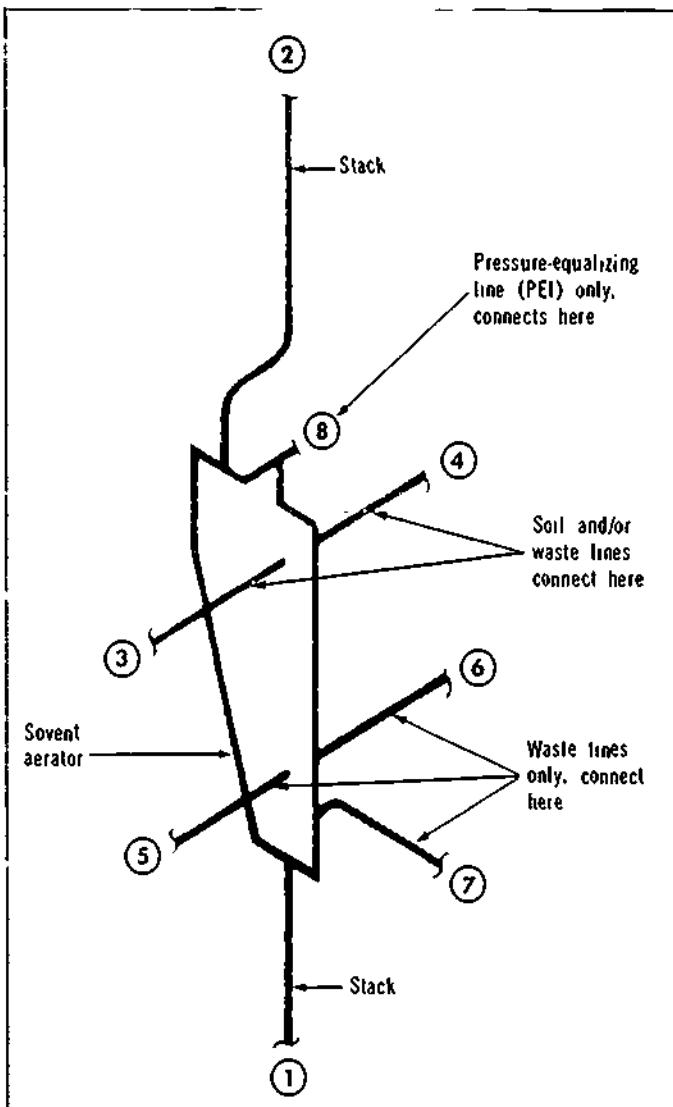

Figure 37-7. Sovent Aerator Connections
26. The permitted connections to an aerator are shown in Figure 37-7. Note that soil or waste lines may be connected to the upper inlets known under the designation numbers 3 and 4. But only waste lines may be connected to the lower inlets known under the designation numbers 5, 6, and 7. As mentioned, the PEL connection is seldom used.